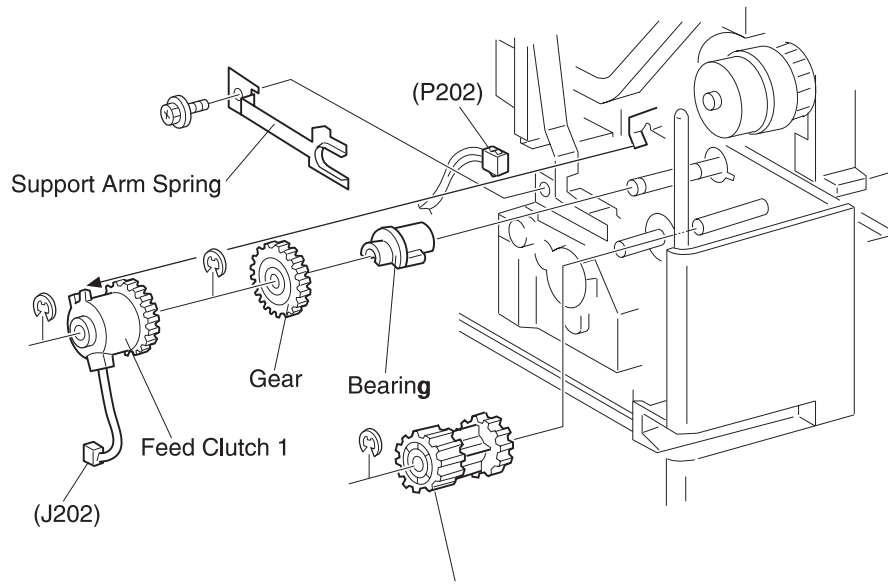

Figure 1 Gear 22/20
4. Remove Tray 2 Feed Clutch along with the Feed Gear and Bearing. (Figure 1).